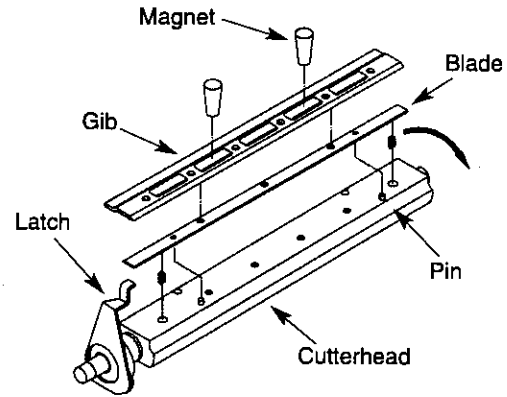

Figure 19 - Remove Blade
- Remove gib using two magnets (Figure 19) provided.